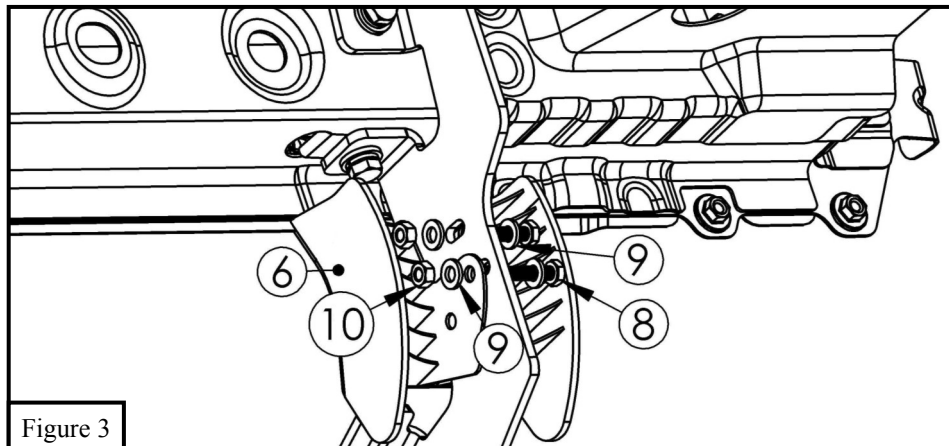

Figure 3
5. Locate (1) plastic bracket cover (Item 6) and loosely secure it to the (6) brackets using the provided hardware: (2) M6 hex head bolts, (4) M6 flat washers, and (2) M6 nylon lock nuts. Repeat for every bracket. See **Figure 3**.